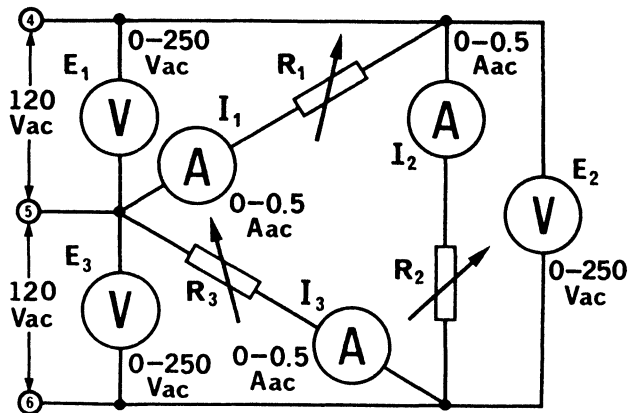

Figure 45-3.
- 6. a. Connect the DELTA circuit shown in Figure 45-3.